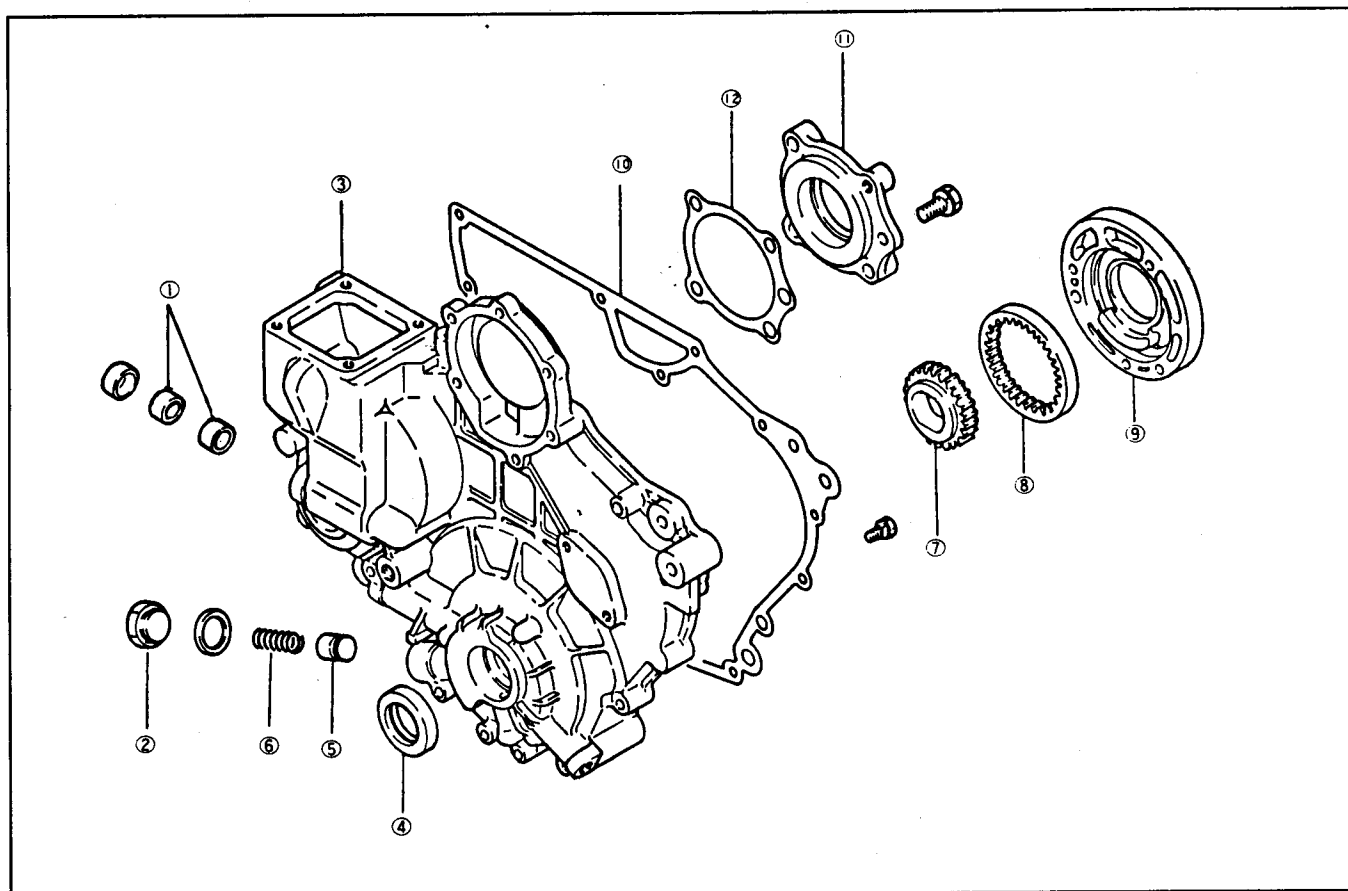

Figure 82
6. Remove the gear case assembly (Fig. 82).